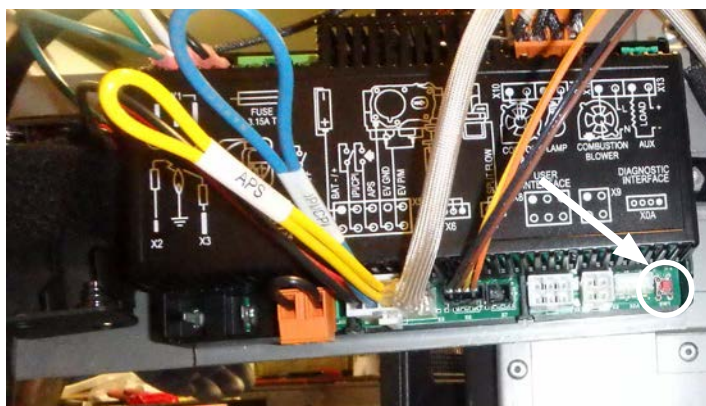

Figure 20.9.09: Remote Sync Button
Step 12: Sync the fireplace remote to the new control board. See Section 19.5 and Figure 20.9.09.